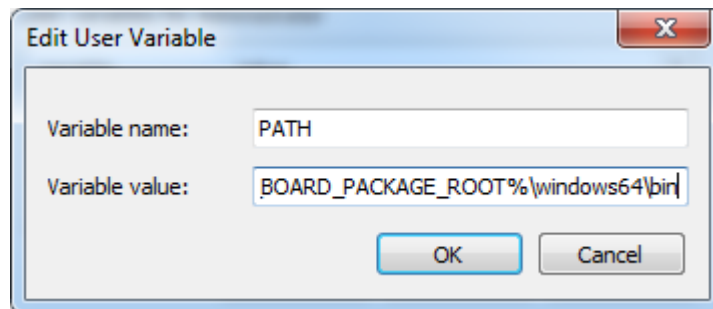

Figure 2-6 Append “%AOCL_BOARD_PACKAGE_ROOT%\windows64\bin”
5. In the Edit dialog, Append "%AOCL_BOARD_PACKAGE_ROOT%\windows64\bin" into the Variable value edit box. Note, each different directory should be separated with a semicolon as shown in **Figure 2-6**.